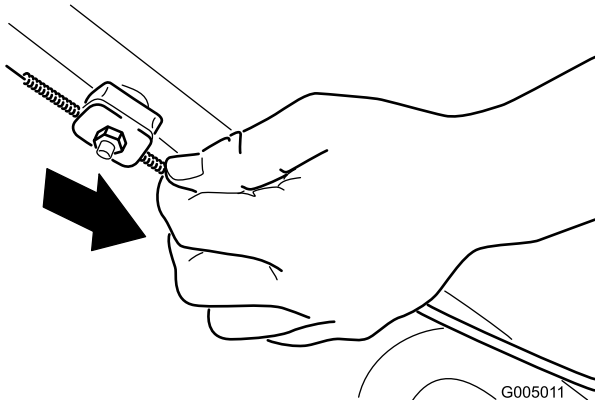

Figure 31
2. Pull down the cable jacket (toward the machine) until there is no slack in the cable (Figure 31).